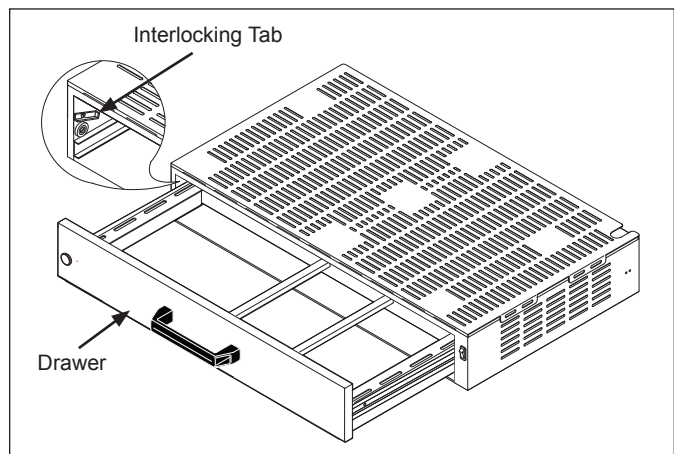

Figure 4. Removing Drawer
3. Pull the Drawer out by pushing down simultaneously on both interlocking tabs and then pulling the Drawer away from unit (Figure 4).